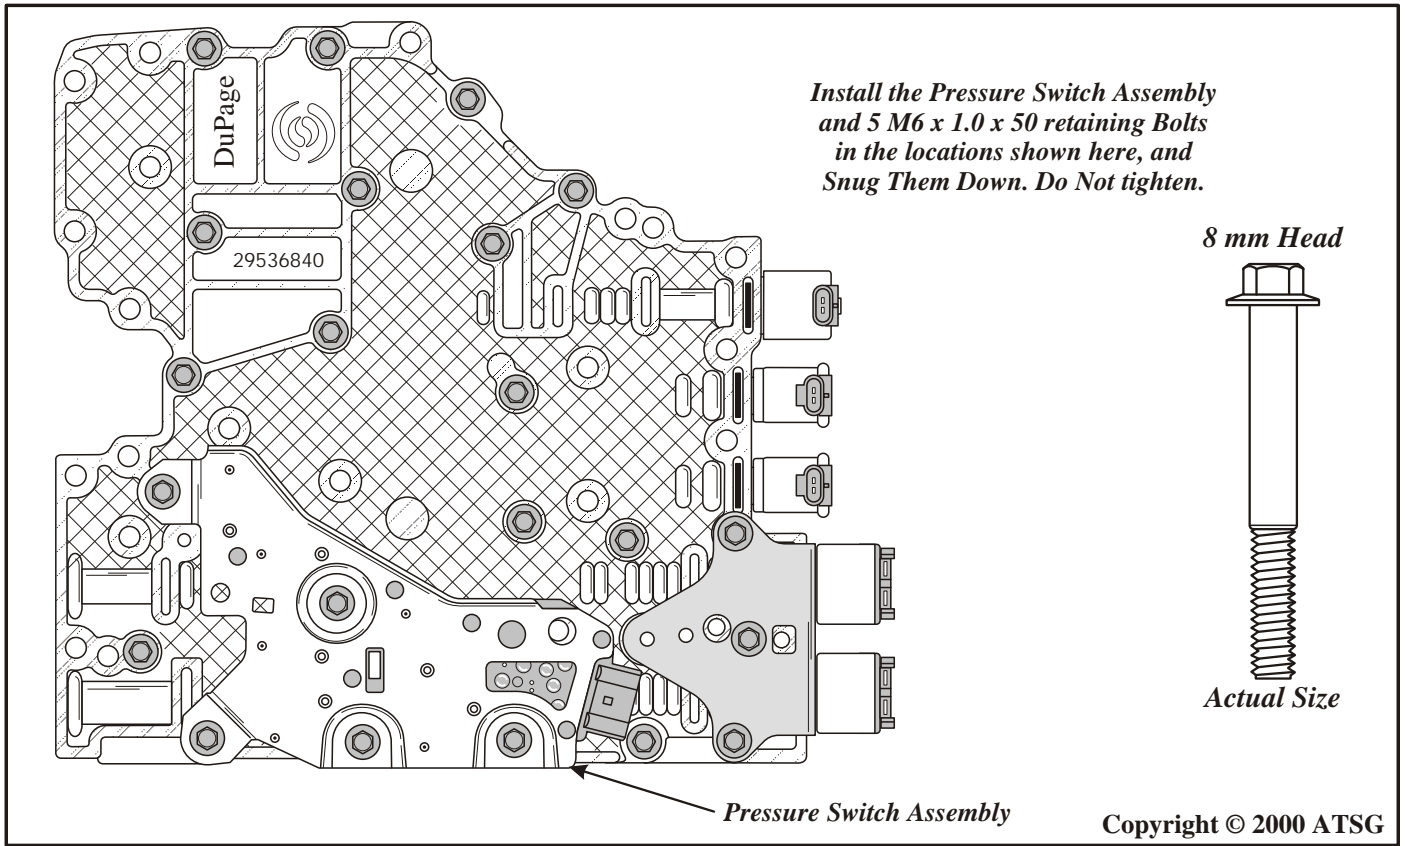

Figure 128
24. Install the pressure switch assembly onto the valve body using five M6 x 1.0 x 50mm bolts, and installed only in the locations that are shown in Figure 128, and snug them down.